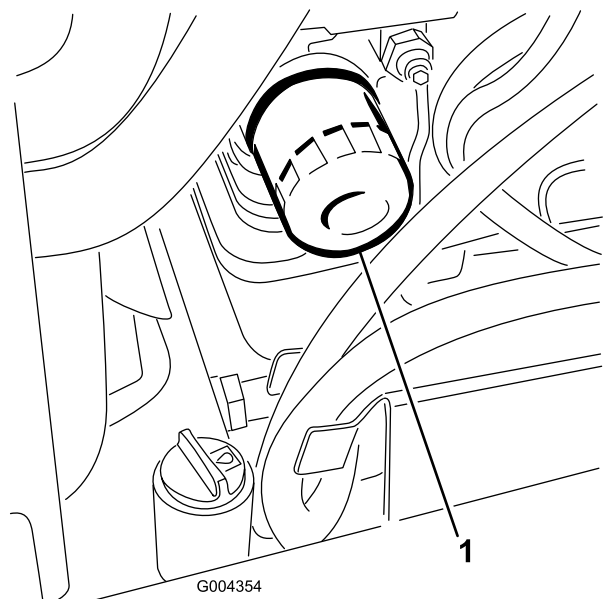

Figure 45
4. Remove the oil filter (Figure 45).